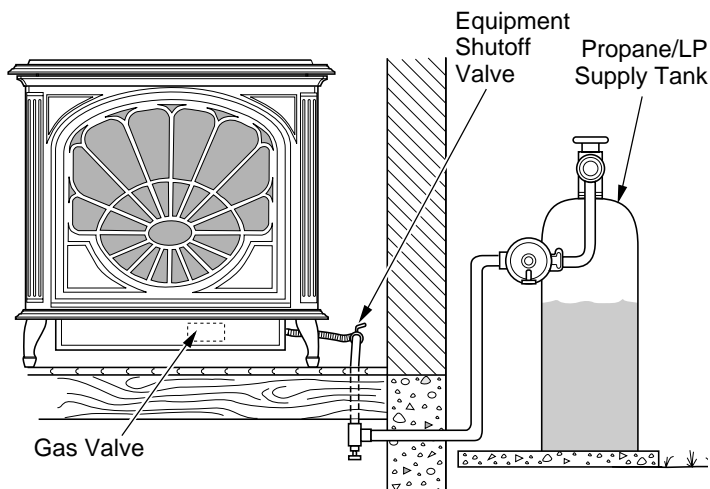
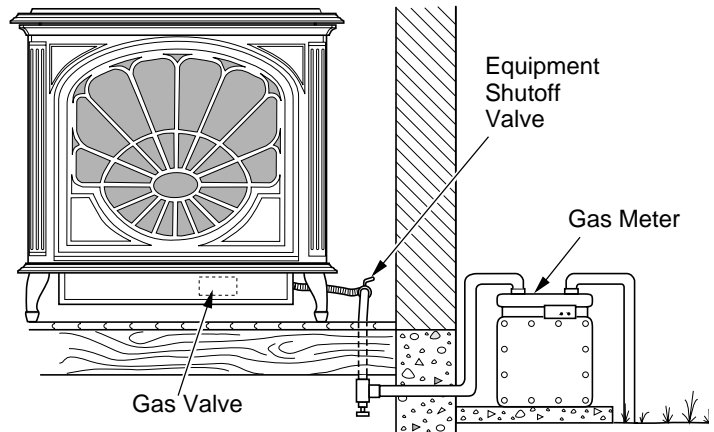

Figure 44 - Checking Gas Joints for Propane/LP Gas Burner System
Figure 45 - Checking Gas Joints for Natural Gas Burner System
3. Check all joints from propane/LP supply tank or gas meter to equipment shutoff valve (see Figure 44 for propane/LP or Figure 45 for natural). Apply noncorrosive leak test solution to all gas joints. Bubbles forming show a leak. Correct all leaks at once.
4. Check all joints from equipment shutoff valve to thermostat gas valve (see Figure 44 for propane/LP or Figure 45 for natural). Apply noncorrosive leak test solution to all gas joints. Bubbles forming show a leak. Correct all leaks at once.